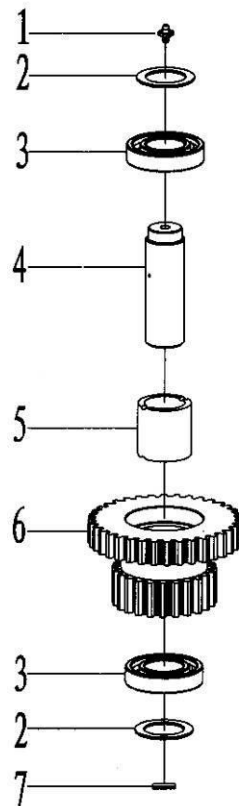

Fig 10
7.10 Double gear assembly (Fig 10. Table 10)